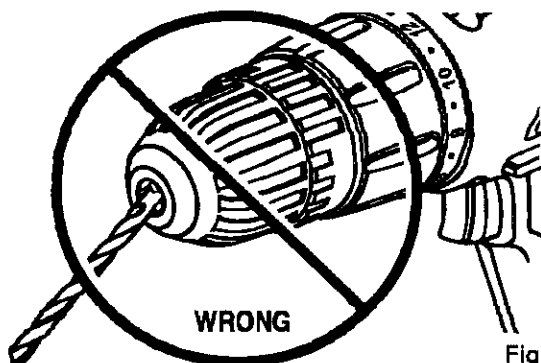

Fig. 8
**⚠ WARNING:** Make sure to insert drill bit straight into chuck jaws. Do not insert drill bit into chuck jaws at an angle then tighten, as shown in Figure 8. This could cause drill bit to be thrown from drill, resulting in possible serious personal injury or damage to the chuck.